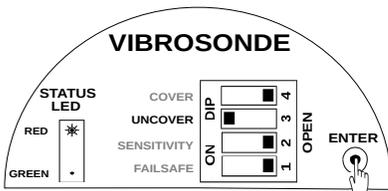

Figure 14: Setting Uncover Delay
3. Press ENTER. The STATUS LED starts blinking. Blink the STATUS LED according to value of uncover delay as shown in Figure 14.